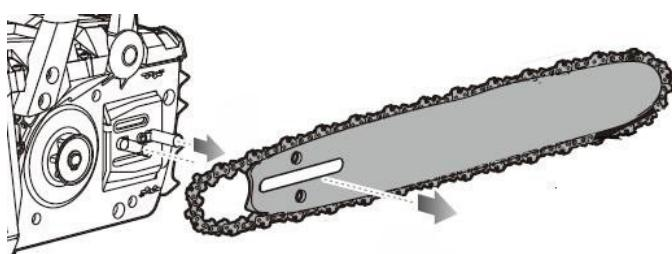

Fig 6
- Remove the bar and chain from the mounting surface. (Fig. 6)